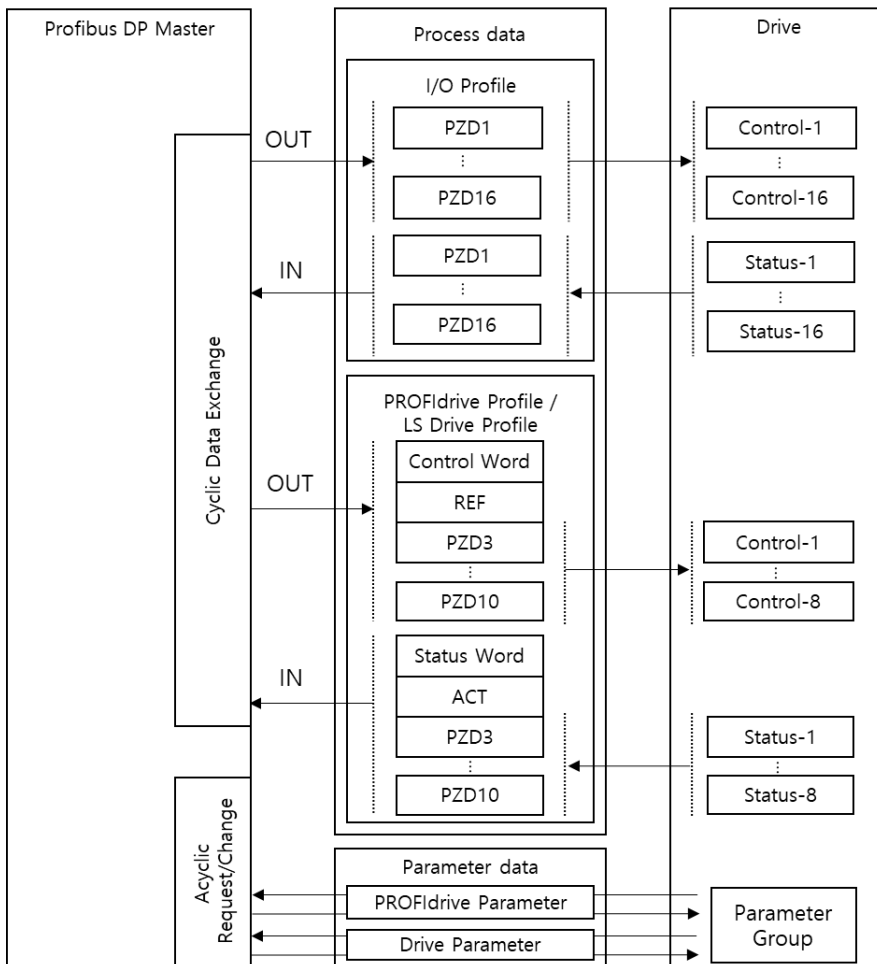

Figure 4. Data Transfer between PROFIBUS DP Master and Drive
Proceeds with the data exchange without applying a separate profile. PZD1-16 is set according to the parameter address value specified only in para control-1-16 and para status-1-16, and the number of words to and from the master during I/O configuration shall match the 5.2 Para Status Num and 5.3 Para Ctrl Num settings. Applies only when using the vendor-specific telegram (100). * See Figure 4 I/O profile.